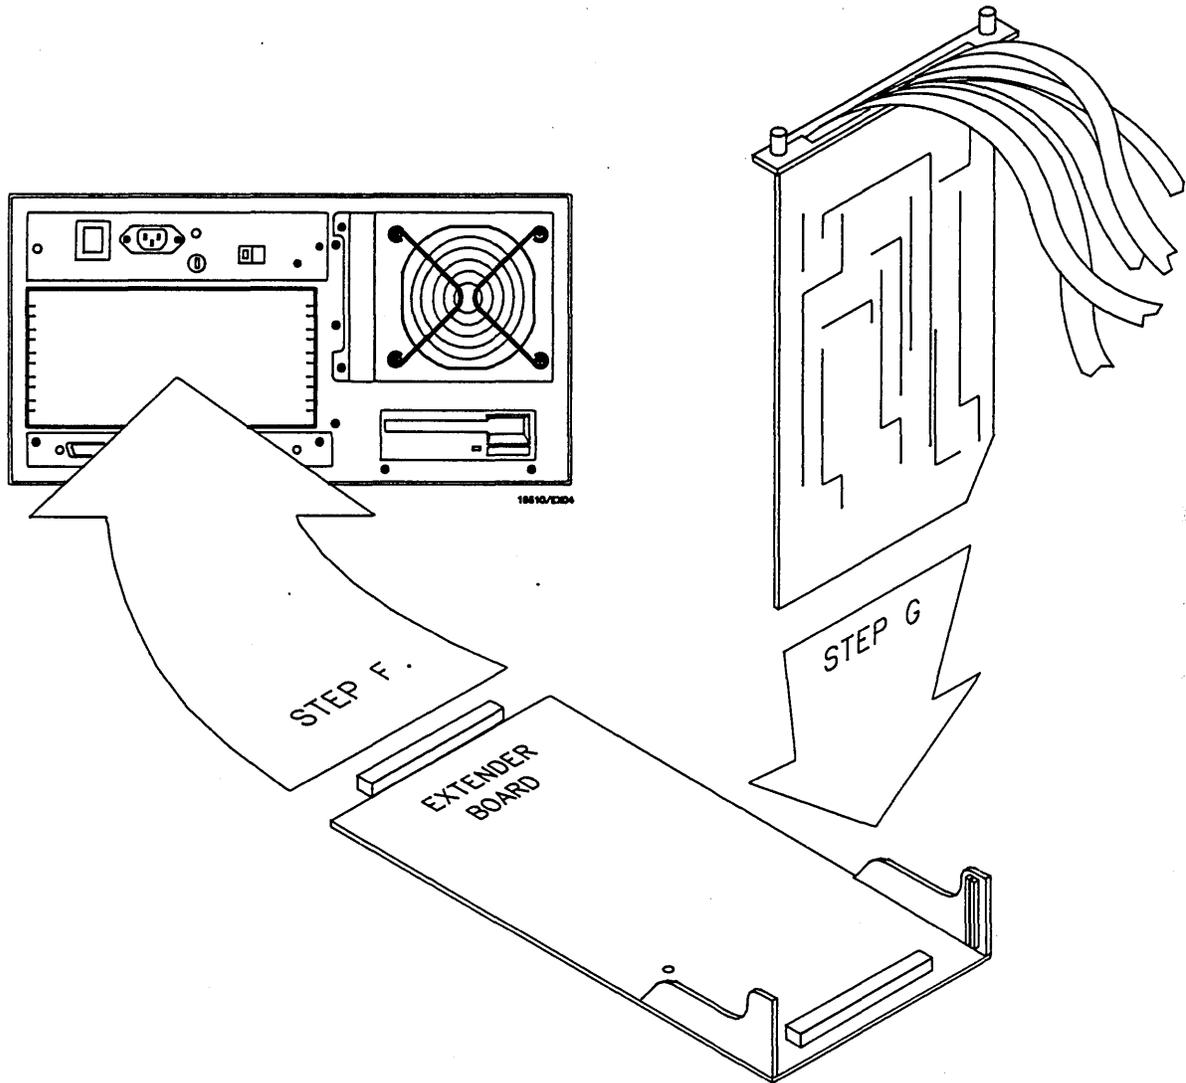

Figure 4-2. Extender Board and Module
- g. Plug HP 16510A card into extender board. See figure 4-2.